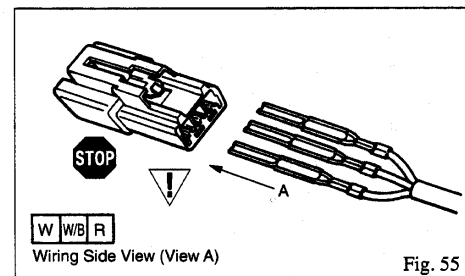

Fig. 55
(34) Insert the terminal of control switch into the **K** (Male, White, 3Pin) connector. (Fig. 55)